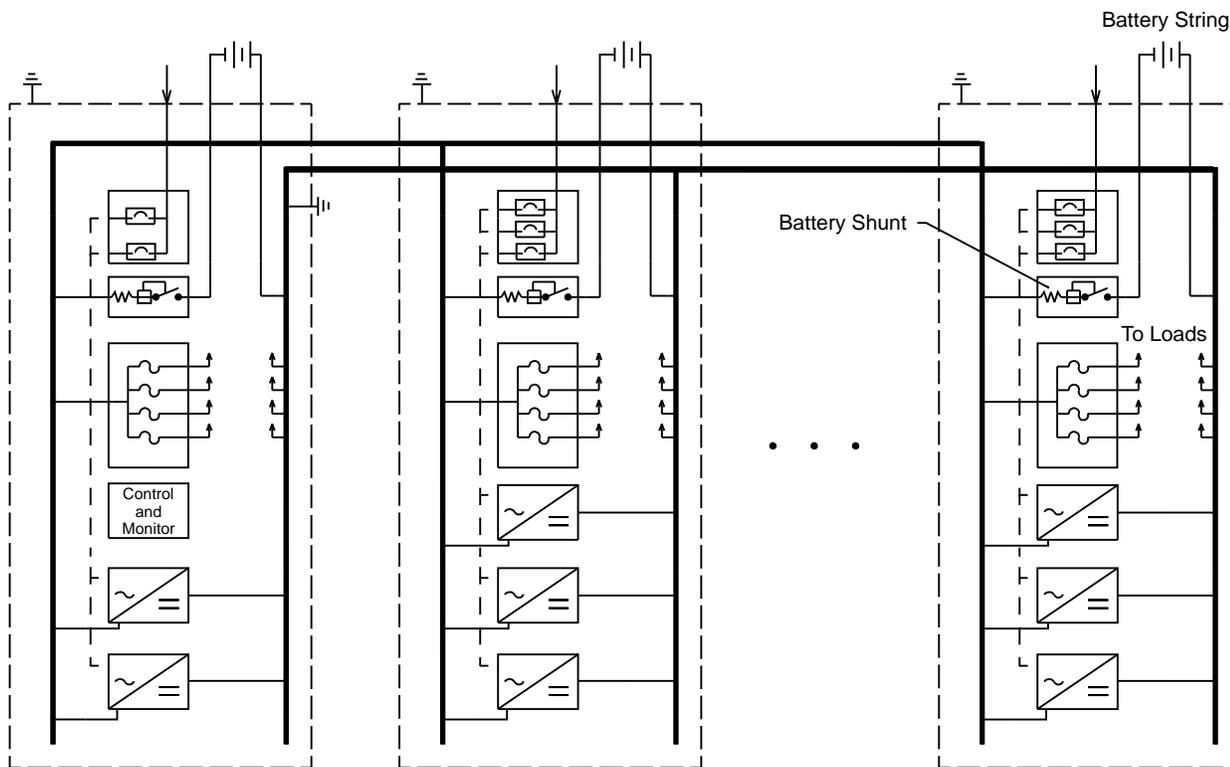
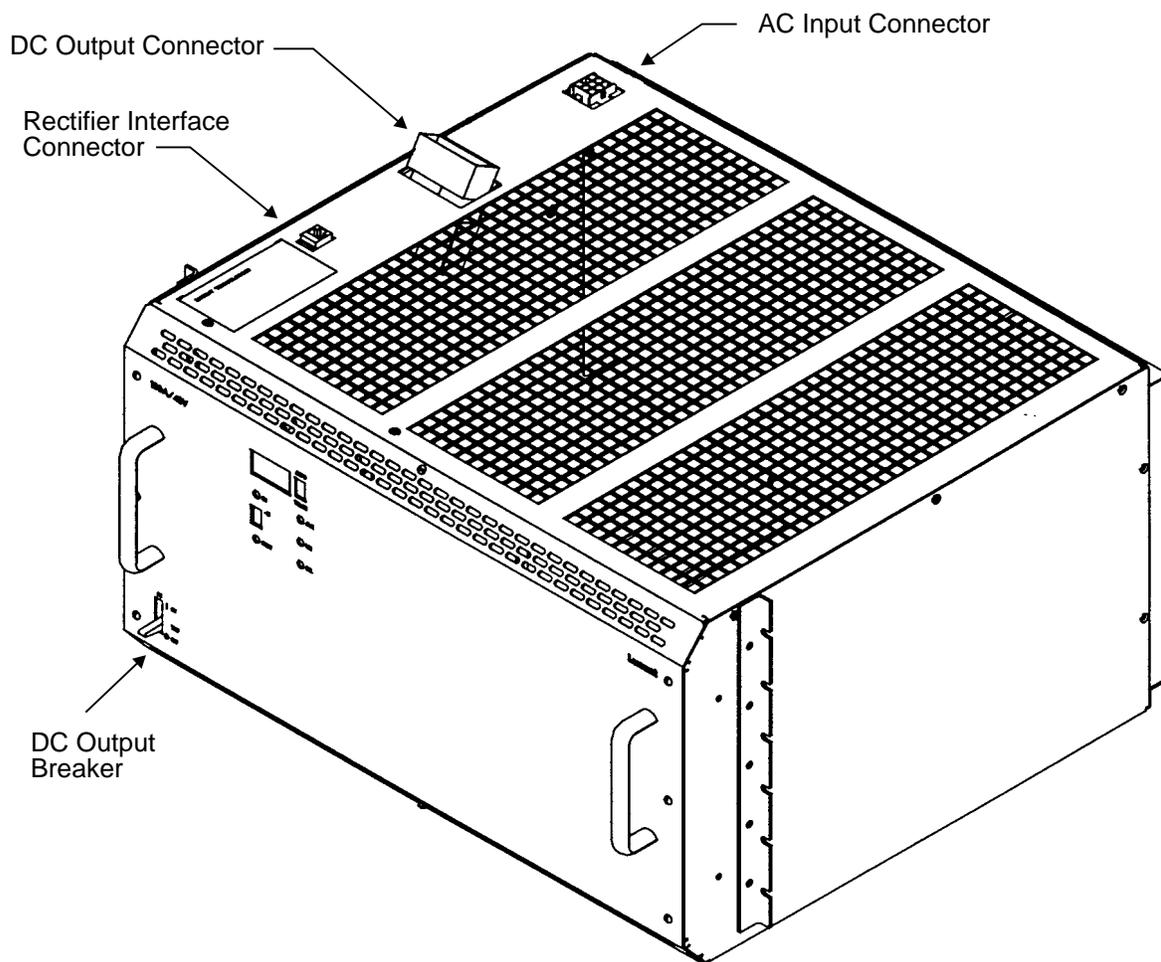
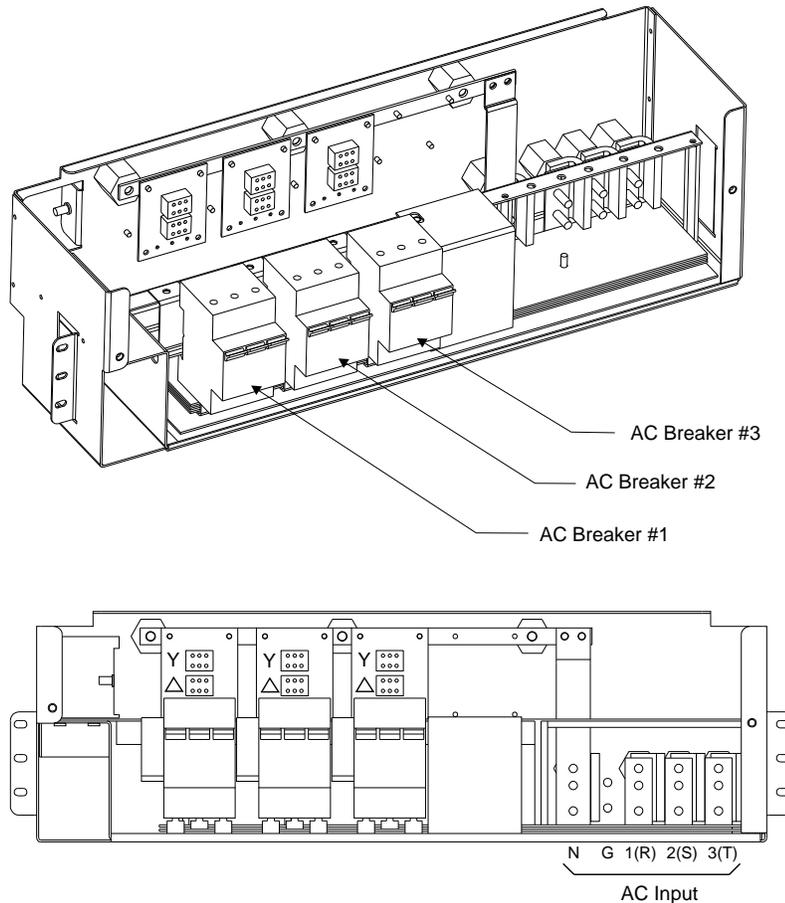

Figure 1-1: Distributed Architecture
Figure 2-4: 570A Rectifier
Figure 2-5: AC Input Panel
Figure 1-1: Distributed Architecture	1-4
The system operates from commercial power in either 200-240 Vac, three phase (DELTA) applications or 350-415 Vac three-phase, four wire (WYE) applications over a frequency range of 47-63 hertz. It is designed for modular growth from a small 200 ampere capacity to a large 2400 ampere capacity using the same system components for all system sizes. The GPS 4824 is designed for a distributed architecture (see Figure 1-1), which means that each system cabinet contains rectifiers, dc distribution, and battery connections. Power is delivered from the rectifiers or batteries to load circuits terminated in the cabinet.
The Galaxy Power System consists of an initial cabinet and up to eight supplementary cabinets. Each cabinet has 80 mounting positions as shown in Figures 1-1 and 1-2. Five positions must be left open at the bottom of the cabinet for anchoring the cabinet to the floor and five positions are reserved at the top of the bay for ac input panel (Figure 2-4) and system bus bars. There are 24 positions available for the battery connection module and the dc distribution panels in the initial cabinet and 21 positions are available in the supplemental cabinet. The three additional inches are required for access to the dc, ac and control cables of the third rectifier. The following are the component options for each cabinet:
The rectifiers are shipped separately from the cabinets for quick and straightforward installation on site. Interconnections to ac input, dc output, and control signals are via cable connections that plug into the rectifier where shown in Figure 2-4. The cables are shipped within the cabinet.
The AC input panel is shown in Figure 2-5. It consists of an ac box equipped with neutral, earth ground and phase 1 (R), 2 (S), 3 (T) connection points, and a three pole 30 ampere circuit breaker wired to each rectifier in the cabinet. AC input wiring to the rectifiers routes through a terminal board. This terminal board has two wiring connector positions. One for DELTA (Δ) AC service and the other for WYE (Y) AC service. From the terminal board, wiring is routed to the rectifiers in an enclosed channel in the back left corner of the cabinet. The wiring in the AC panel is factory configured to WYE AC service. If the system is to be used with DELTA service, the wiring must be moved from WYE to DELTA connector on the terminal board. Connection to the rectifier is shown in Figure 2-4. This connection is accessed by removing the air baffle above the rectifier.